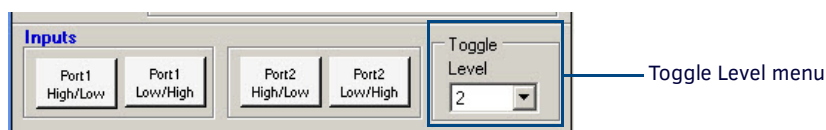

FIG. 66 Toggle Level menu
10. Select **Red** from the Color menu, and select **1** from the Toggle Level menu on the right side of the window (FIG. 66).